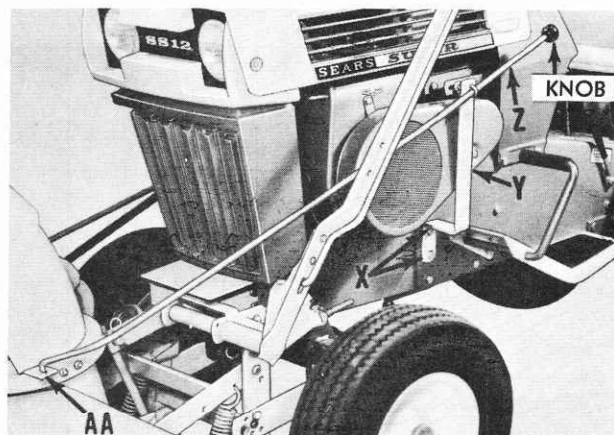

FIG. 11
19. Refer to Fig. 11. Remove upper two bolts (X), from L.H. tractor frame and assemble spout rod support (Y), to tractor with bolts removed as shown. Tighten bolts securely.
20. Assemble deflector rod (Z), to spout rod support (Y), with U clamp, two springs and two gripco nuts. U clamp, springs and nuts will be found in plastic bag.
21. Assemble deflector rod (Z), to bracket (AA), on deflector with washers and small retainer spring. A washer must be on both sides of bracket (AA), and insert retainer spring into deflector rod from front as shown. Washers and retainer springs will be found in plastic bag.
22. Screw knob on threaded end of deflector rod (Z). Tighten all bolts and make sure cotter pins are spread. Lubricate Rotary Snow Plow – see Lubrication Chart on page 7. Change oil in tractor engine to a lighter weight of oil for cold weather use.